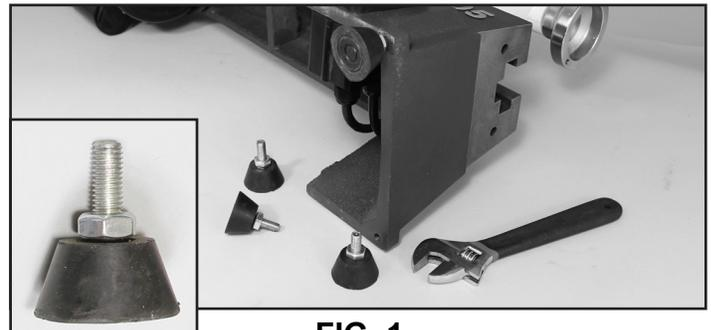

FIG. 1
1. Screw the rubber feet onto the four corners of lathe bed casting. The threaded post has a hex nut to secure and adjust the feet height, if necessary, if the bench is not level. FIG. 1.